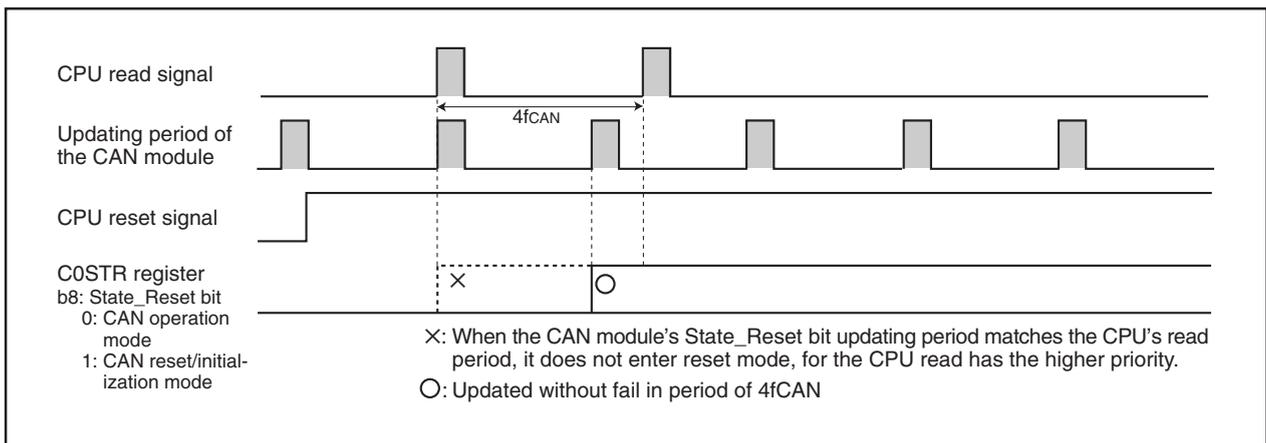

Figure 23.5 When Polling Period of CPU is 3fCAN or Longer
- (b) When the CPU polls the C0STR register, the polling period must be $3f_{CAN}$ or longer. (See **Figure 23.5 When Polling Period of CPU is $3f_{CAN}$ or Longer.**)